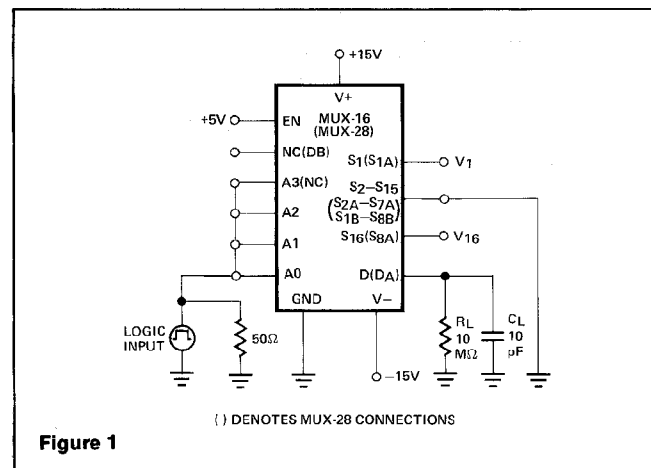

Figure 1
When operating with negative input voltages, the gate-to-channel diode will be turned on if the voltage drop across an ON switch exceeds $-0.6V$. While this condition will cause an error in the output, it will not damage the switch. In lab tests, the multiplexer output has been loaded with a $0.01\mu F$ capacitor in the circuit of Figure 1. With $V_1 = -10V$ and $V_{16} = +10V$, the logic input was driven at a 1kHz rate. The positive-going slew rate was $0.3V/\mu Sec$ which is equivalent to a normal I_{DSS} of 3mA. The negative-going slew rate was $0.7V/\mu sec$ which is equivalent to a "reverse" I_{DSS} of 7mA. Note that when switch one (1) is first turned ON it has a drop of $-20V$ across its terminals. In spite of that fact, the current is limited to approximately twice its normal I_{DSS} .